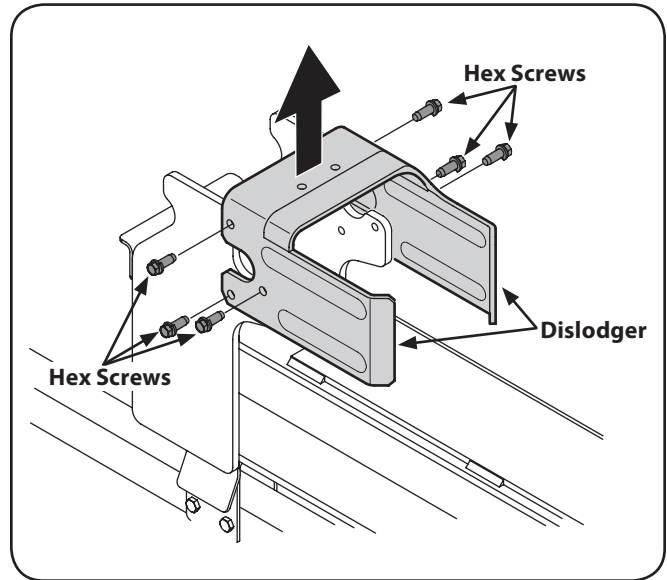

Figure 3-4
- Disconnect the dislodger from the beam weld bracket by removing the six hex screws. See Fig. 3-4.
- Attach the dislodger over the wedge assembly and secure it to the weld brackets with the previously removed hardware. See Fig. 3-4.